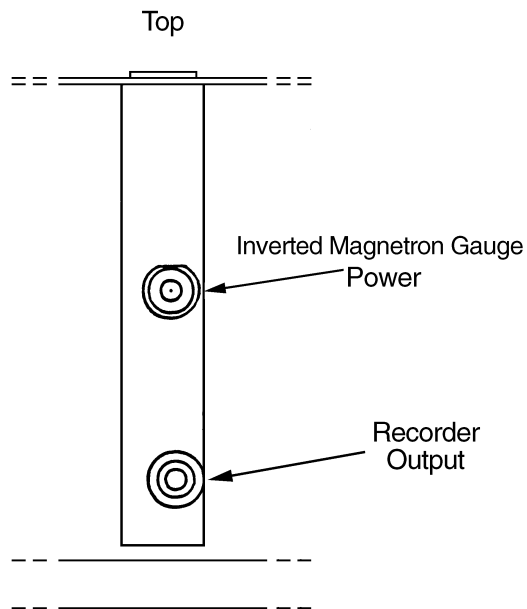

Figure J-1 Card Connections
Cable Length	<p>Standard cables with lengths of 10 and 20 feet are available from stock. Longer cables of up to 100 feet are available on special order. Connections are made at the rear of the card as shown in Figure J-1 on page J-4.</p> <div style="display: flex; align-items: flex-start; margin-top: 10px;"> <div style="margin-right: 10px;"> <p>NOTE</p>  </div> <div> <p>Measurements in the ultra-high vacuum range may be inaccurate or impossible due to increased leakage currents and other effects due to long cable lengths. Use rigidly mounted cable to avoid triboelectric and leakage effects.</p> </div> </div>
2. Use Figure J-1 to connect the board.